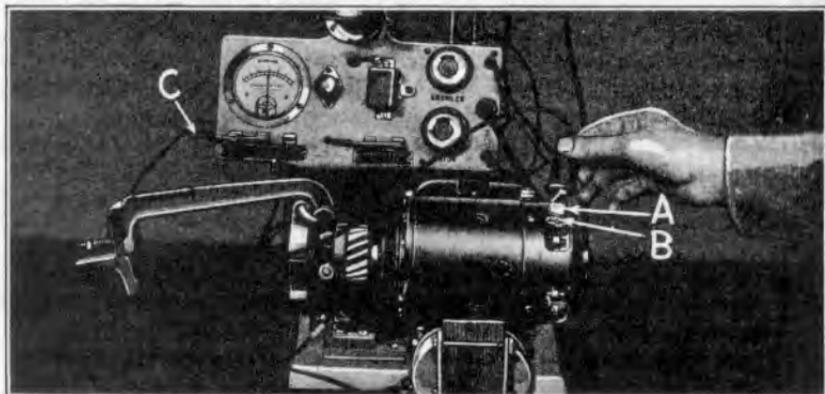

Fig. 517
**1086** To test for opens or grounds in field coils without disassembling the generator, place generator on stand and raise third brush as described in Par. 905. Connect test stand terminal (See "A" Fig. 517) to brush terminal on third brush "B". If field coils are O. K. ammeter on stand will show a reading of 2 to 2½ amperes with switch "C" on stand closed. If ammeter fails to show a charge it indicates an open in the field coils and new coils should be installed, providing a visual inspection fails to disclose the trouble. If a high reading is shown on ammeter either the brush holder or field coils are grounded. If brush holder is grounded a new brush ring should be installed. If field coils are grounded, they should be removed and inspected for broken wires, loose connections and broken insulation.